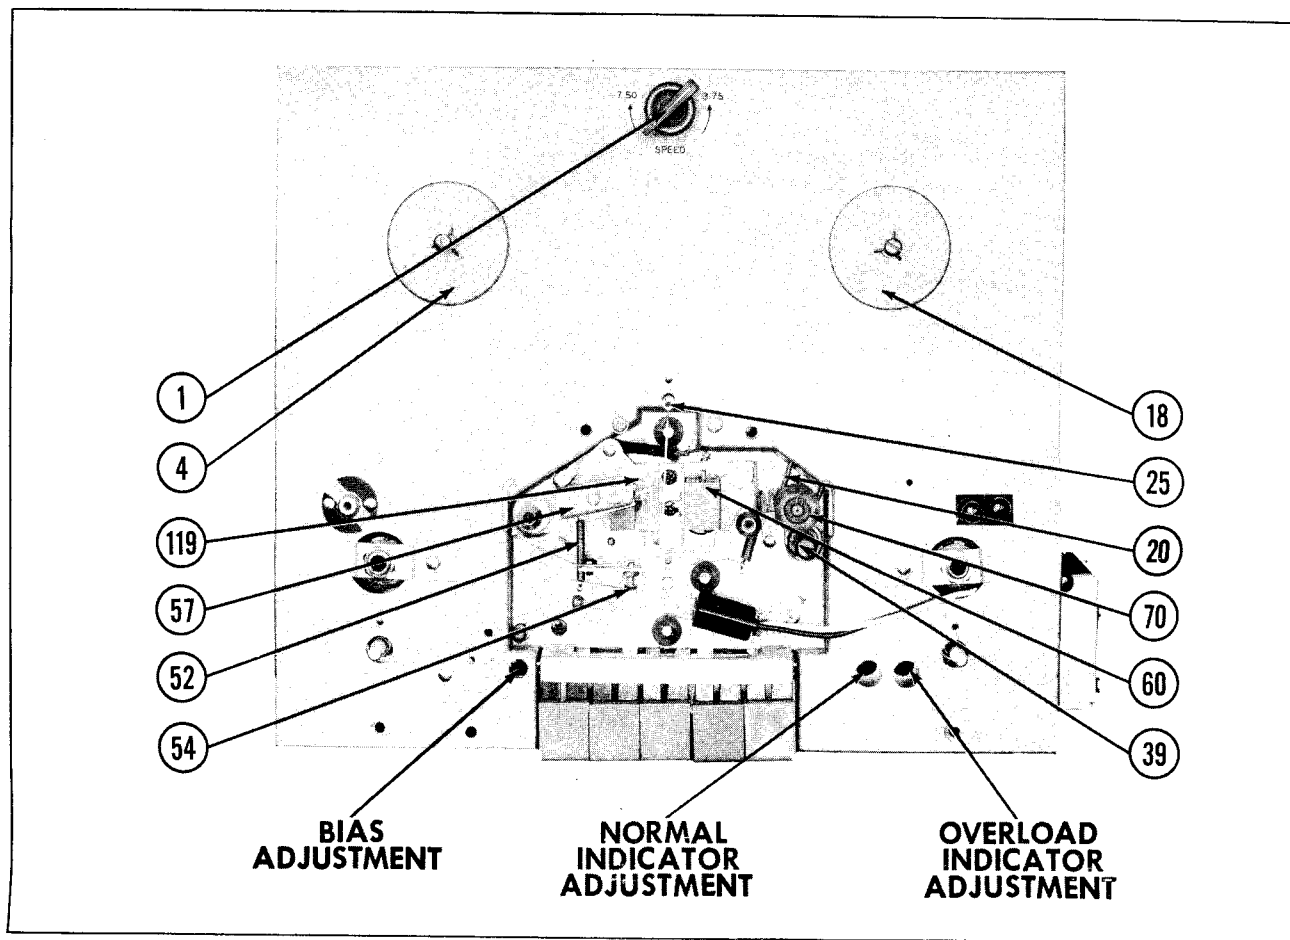

Figure 2
2. With the escutcheons removed check the erase head (57) to see if it is parallel with the tape.
3. Check to see if the top edge of the tape coincides with the top end of the diagonal slot in the erase head (junction of long diagonal slot and short vertical slot). To adjust level of tape, loosen set screw (47), see exploded view, and rotate tape guide post (48) to move tape up or down. Tighten set screw (47).
4. After this adjustment has been made, check to see if the tape moves forward approximately $1/64$ " when the "Record" button is depressed. If not, loosen the forward adjustment screw (119), see Figure 2, and turn the screw in or out as required to obtain this $1/64$ " movement. Tighten the lock nut.